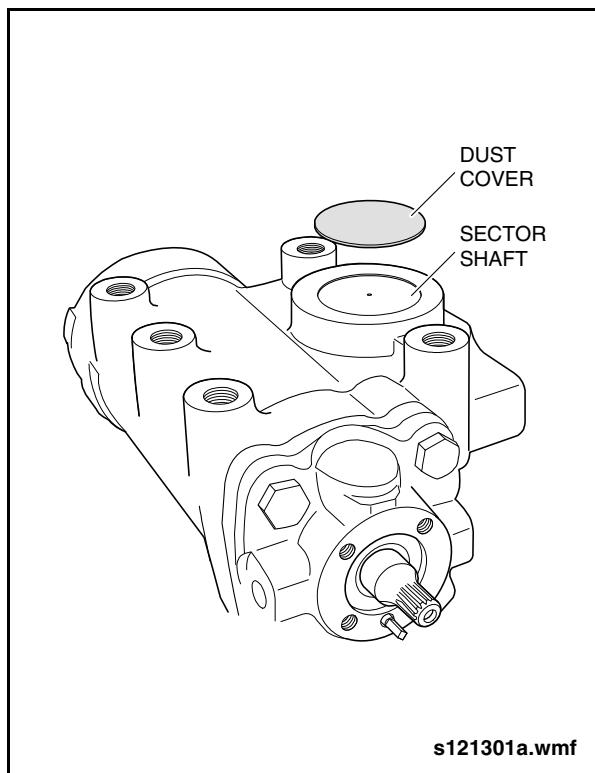

Fig. 3-19: Sector Shaft Dust Cover Removal
5. Remove dust cover from opposite end of sector shaft. See "Fig. 3-19: Sector Shaft Dust Cover Removal" on page 35.